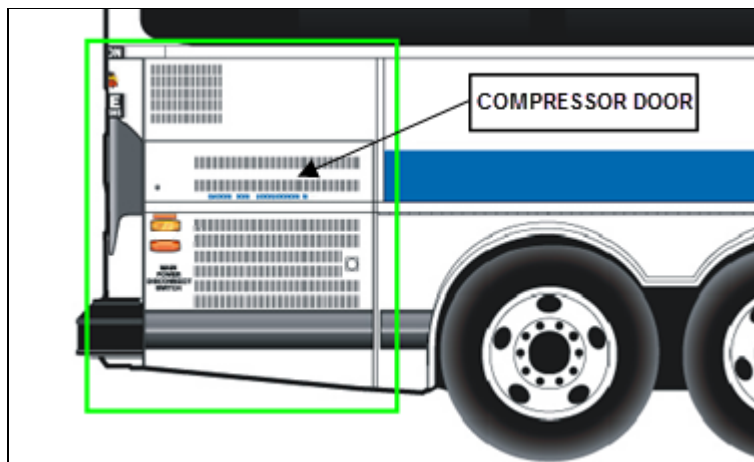

FIG.1 VEHICLE COMPRESSOR DOOR
- 1) Fully open the vehicle compressor door (rear, curb side of vehicle Fig.1).